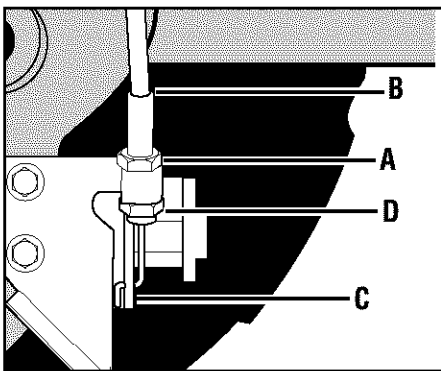

Figure 5-4: Wheel gear cable assembly.
2. Loosen top adjustment nut (A, Figure 5-4) on wheel gear cable bracket located on left side rear of transmission.